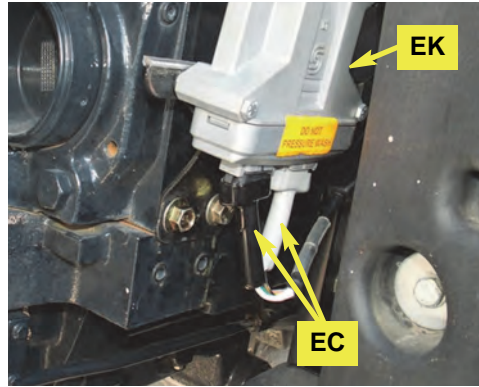

Figure 3a: Steering controller main cable connected
- a. Connect steering controller cable **EC**'s two 12-pin connectors (black and gray) to their respective sockets on the steering controller **EK** (Figure 3a).